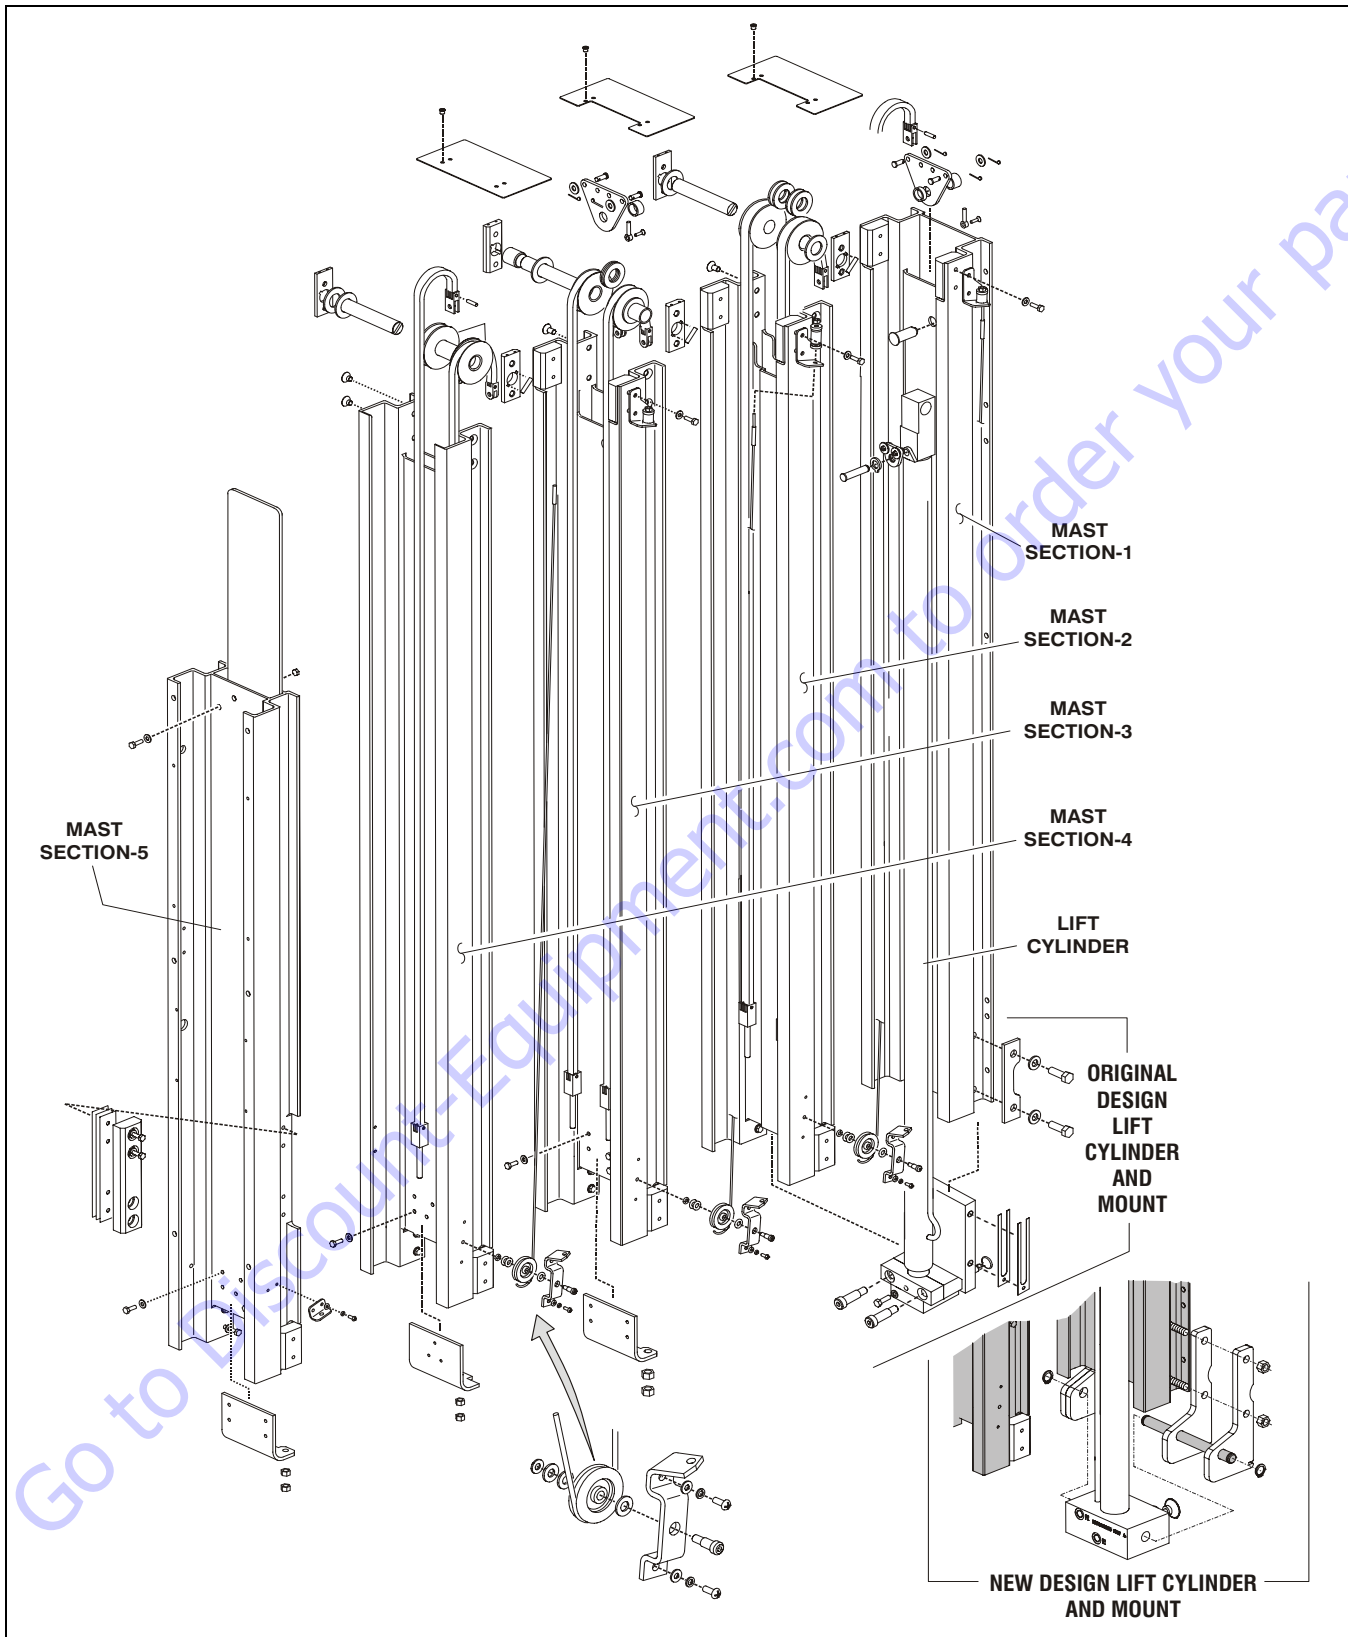
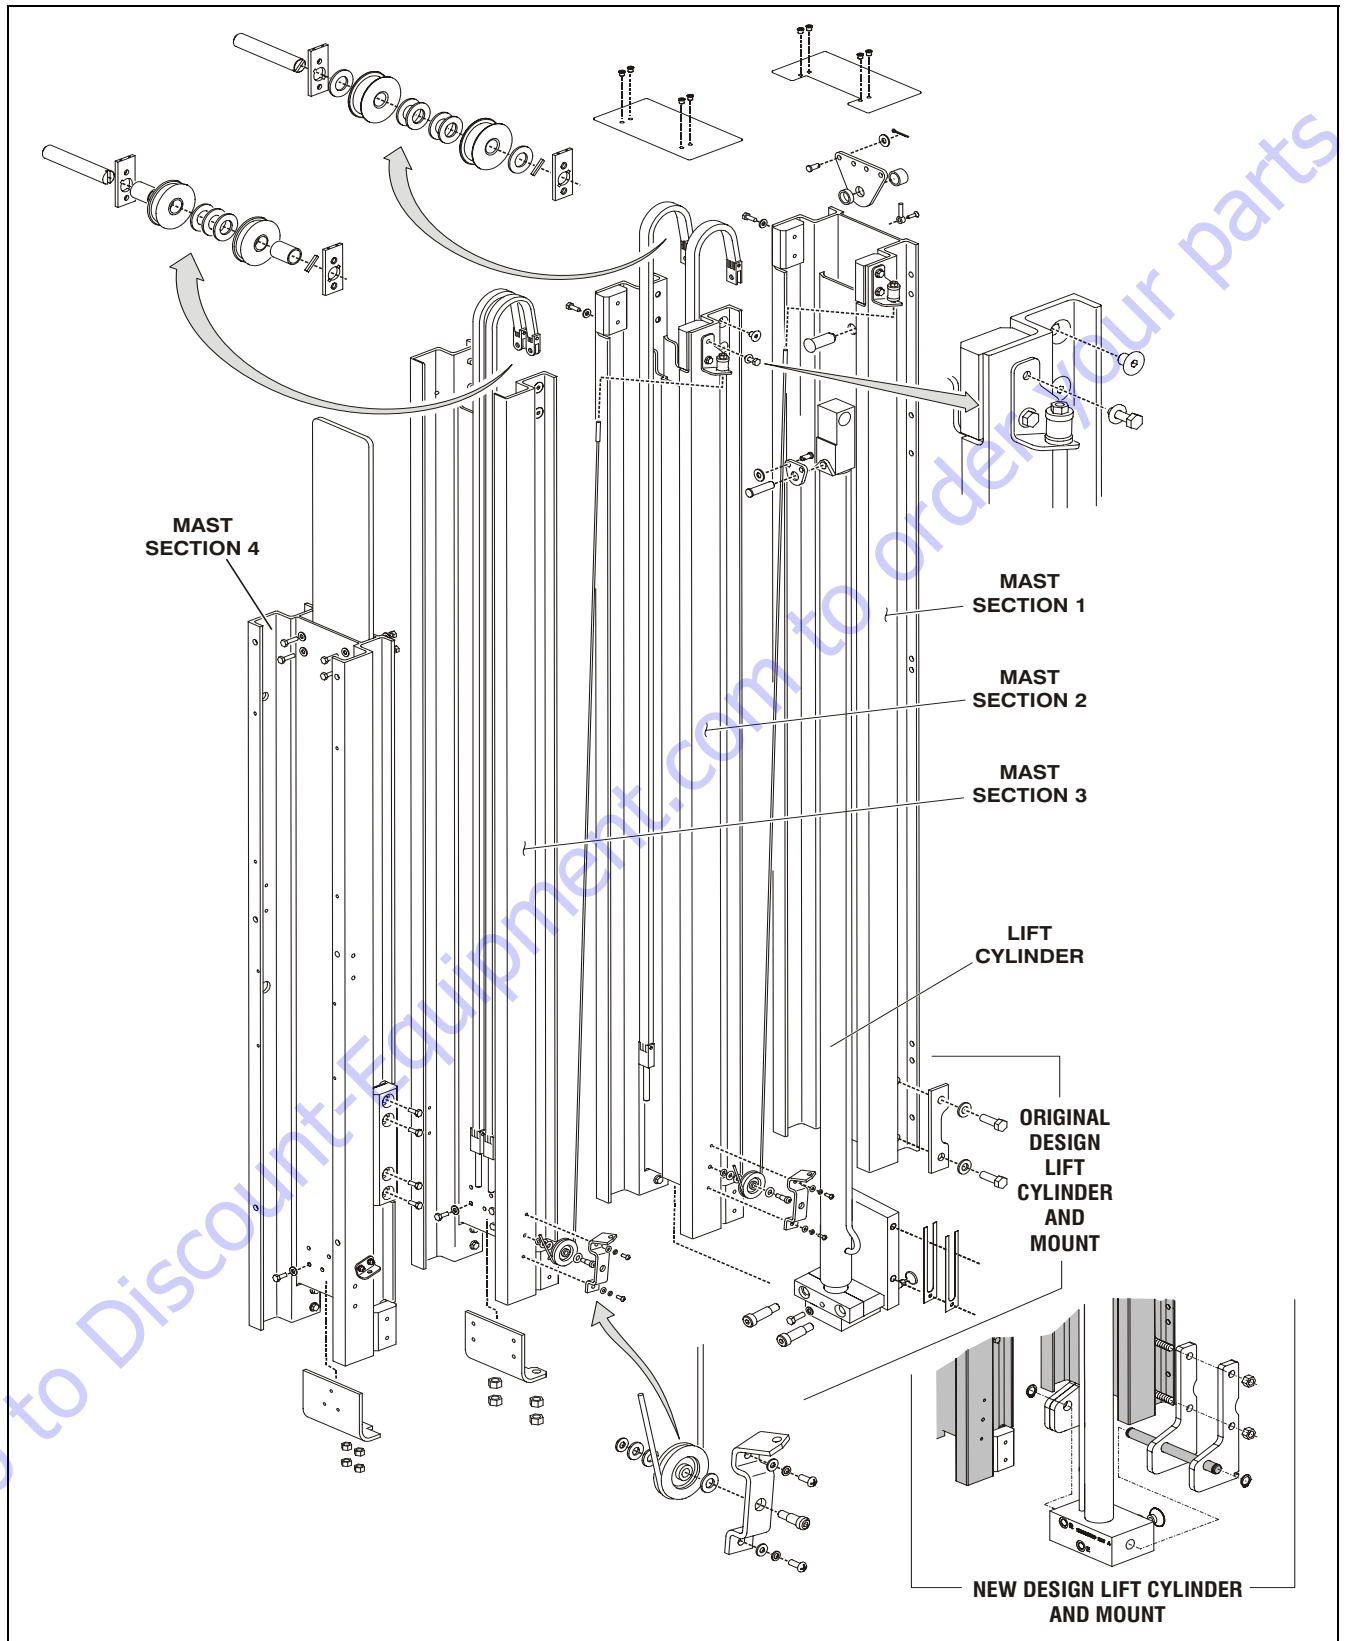
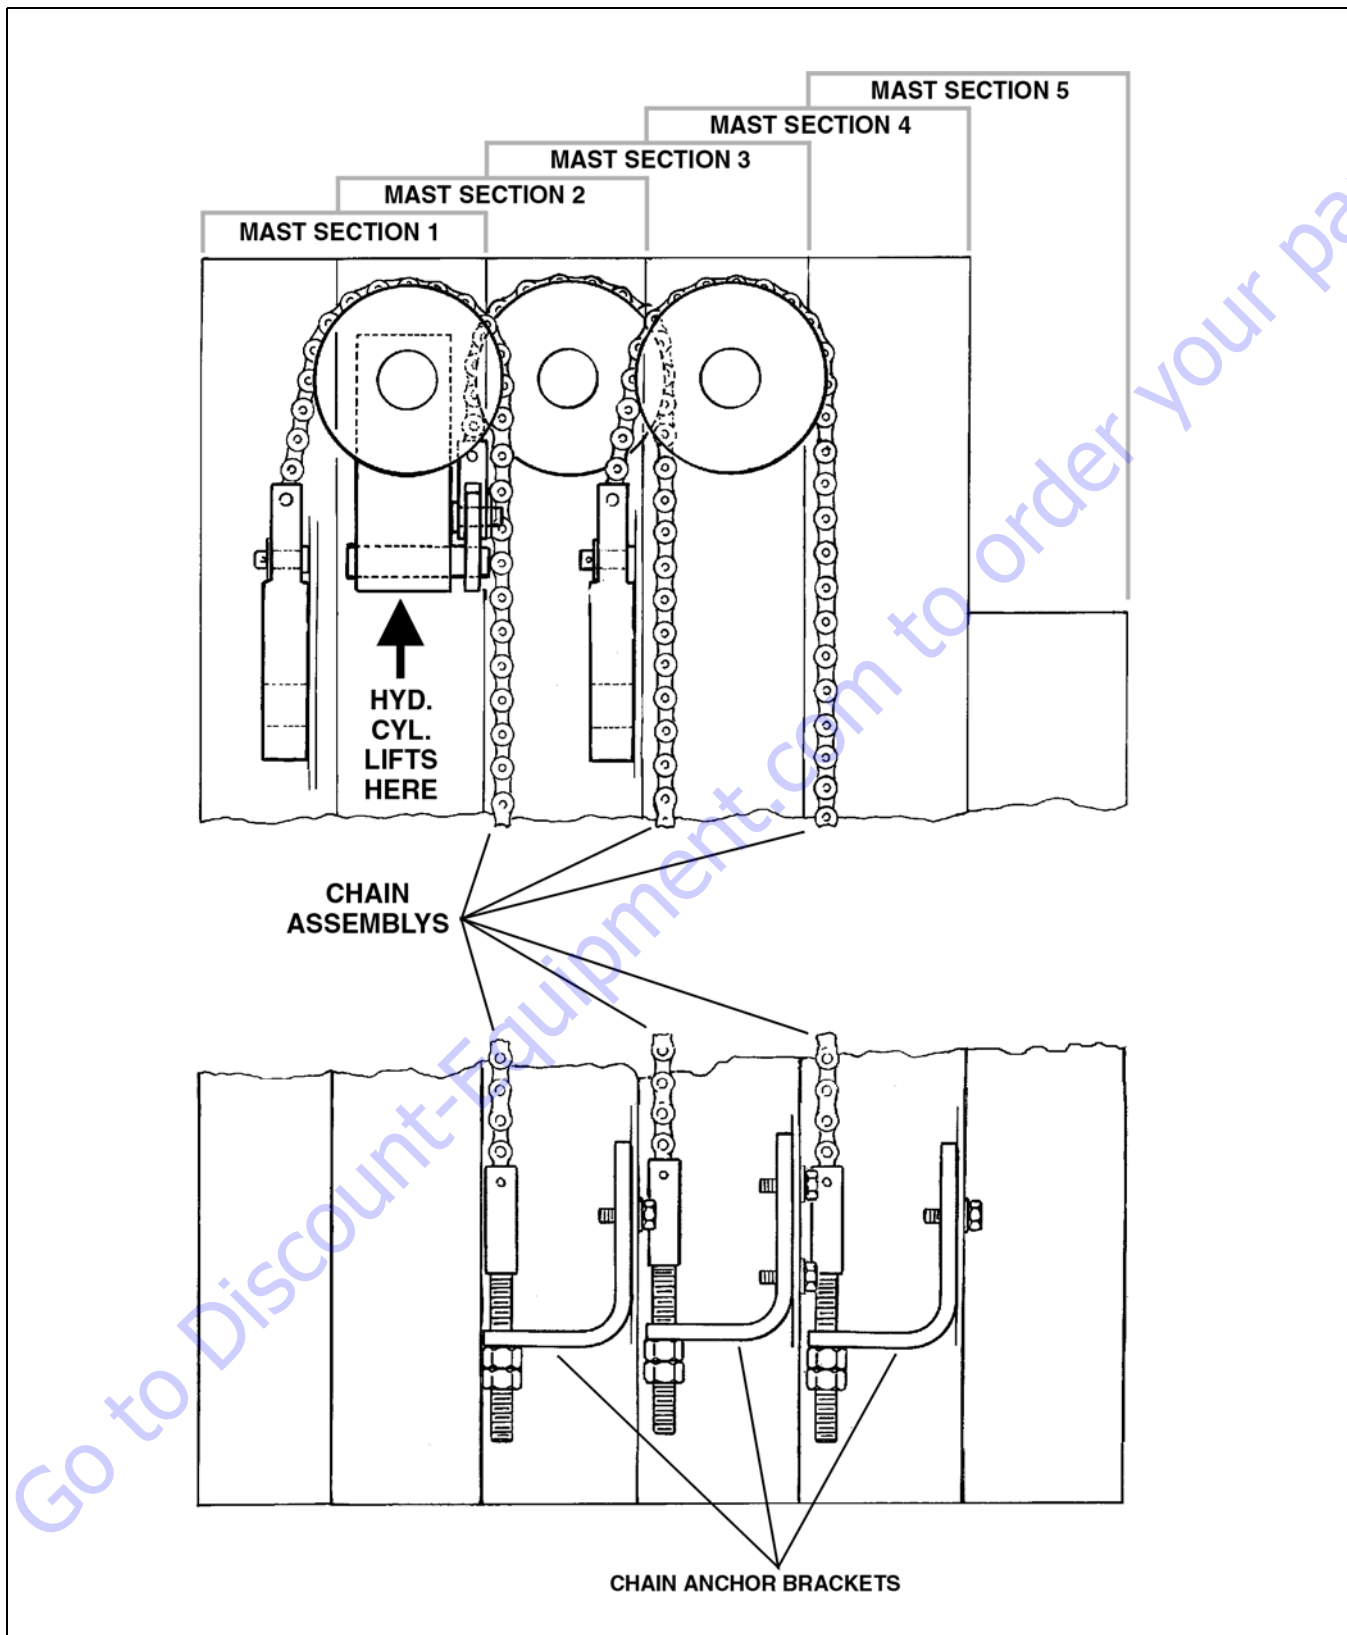

Figure 2-3. 15SP Mast Assembly Components. (5 Section)
Figure 2-4. 12SP Mast Assembly Components. (4 Section)
Figure 2-5. Mast Chain Routing Diagram.
NOTE: The following procedures are used for both the four (4) and five (5) section masts. When referring to the mast sections in these procedures a split mast section number like 4/5 will refer to either section-4 or section-5 depending on which applies to your mast assembly. See Figure 2-3. & Figure 2-4.
(See Figure 2-3., Figure 2-4. & Figure 2-5.)